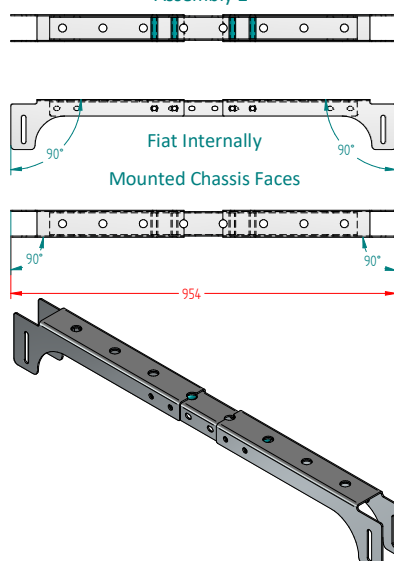

Figure 1
2. Cut the Foam Tape into four equal lengths of **365mm** and attach to each one of item **B** as shown **figure 1**, any remaining tape can be attached to item **A** as shown in **figure 4**.